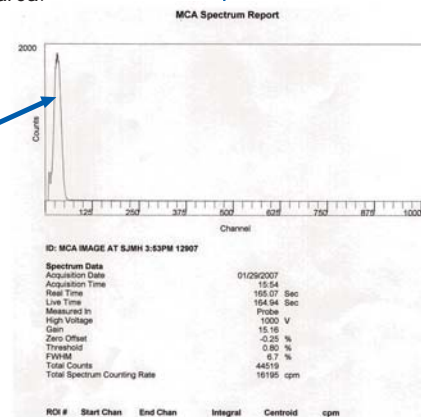

Fig. 1
- *Emitted radiation* from diagnostic imaging equipment can be detected by probe technology and may result in increased count rates during an uptake procedure. **Figure 1** illustrates a spike in count rate from a CT scanner that shares a wall with the uptake room. The wall has leaded shielding to 8 feet; however, there is an additional six feet above the lead shielding for AC duct work and electrical conduits that share a continuous open area.